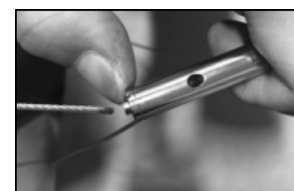

Fig. B-4
2. Use the regulator to adjust the height of the fixture **Figure B-4**.